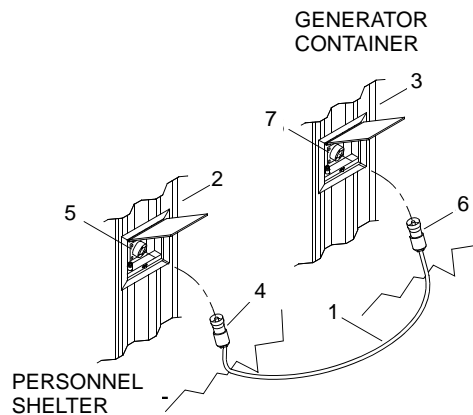

Figure 29. Shore Tie Connection
4. Install shore tie power cable (figure 29, item 1) between personnel shelter (figure 29, item 2) and generator container (figure 29, item 3).
- a. Connect female end (figure 29, item 4) of shore tie power cable (figure 29, item 1) to personnel shelter male shore tie connector (figure 29, item 5).
- b. Connect male end (figure 29, item 6) of shore tie power cable (figure 29, item 1) to female shore tie connector (figure 29, item 7) on generator container (figure 29, item 3).